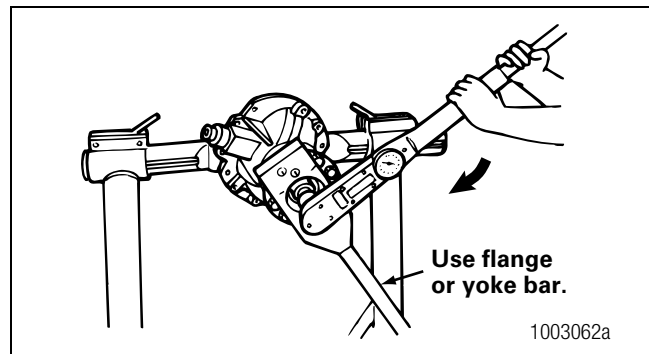

Figure 5.34
7. Install the drive pinion nut, and washer if required, onto the input pinion shaft and against the yoke collar. Tighten the nut against the yoke collar to torque specifications. Figure 5.34. Refer to Section 8.